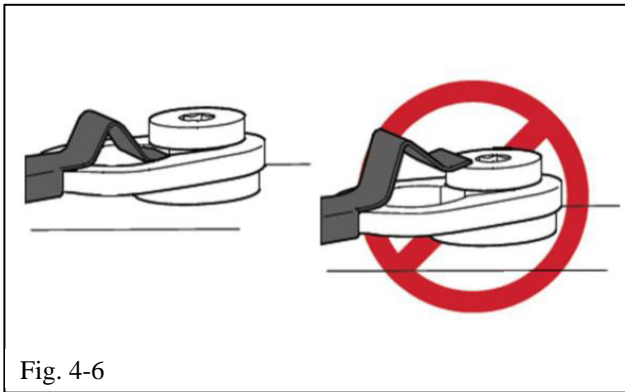

Fig. 4-6
- (f) Hook tether cable eyelet onto shoulder bolt installed in step 2c and torqued in step 3d (Fig. 4-6).